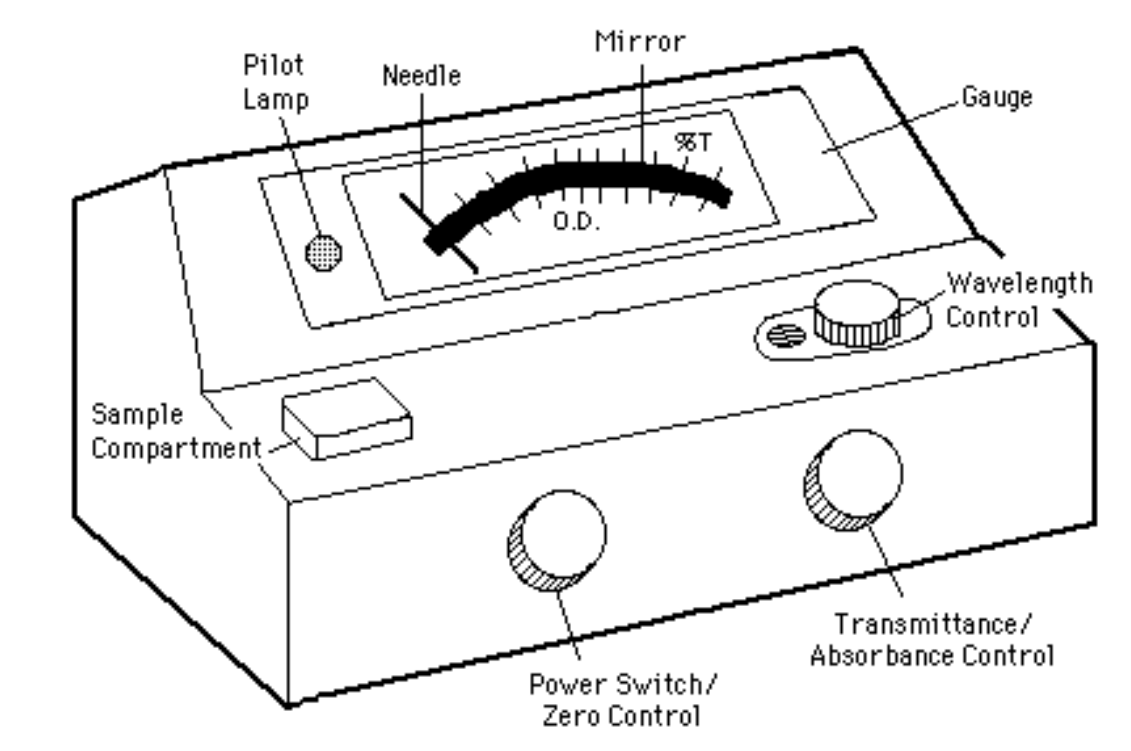

Fig. 3. A spectrophotometer.
1. Turn on the instrument by rotating the Power Switch/Zero Control knob clockwise (see Fig. 3). This should be done 10 min before the measurements are to be made to give the machine enough time to warm up.